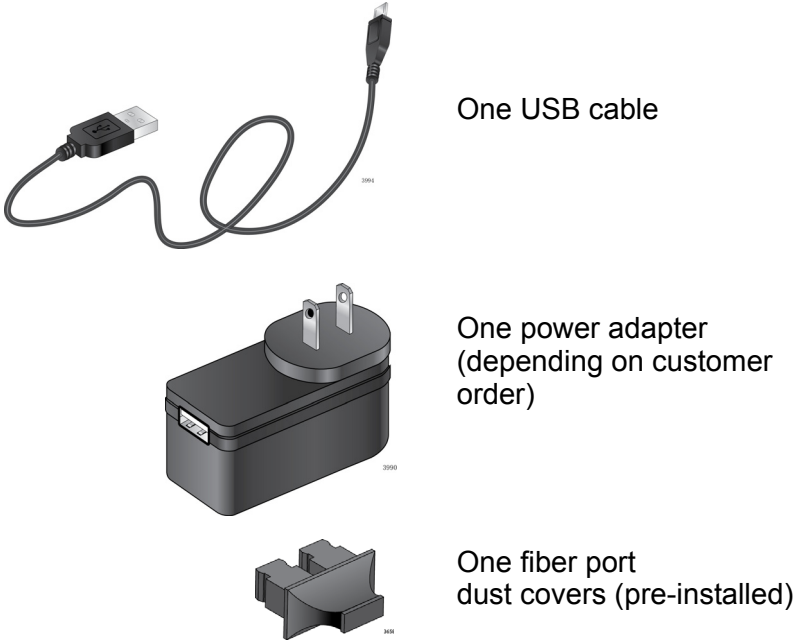

Figure 15. AT-DMC1000/SC and AT-DMC100/SC Shipping Package Contents
- Figure 15 on page 37 shows shipping container items for the AT-DMC1000/SC and AT-DMC100/SC.